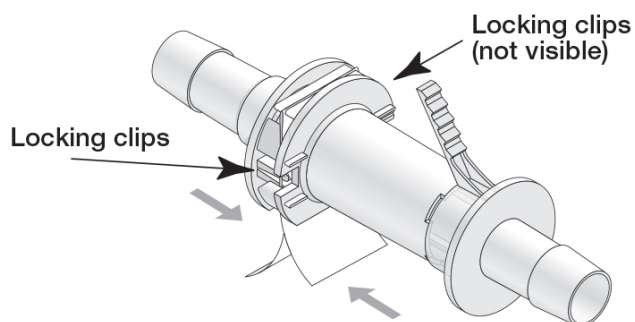

Figure 5.38. Pressing the connectors together.
3. After the connectors have been aligned correctly, firmly press the two connectors together until both locking clips snap together tightly (Figure 5.38).